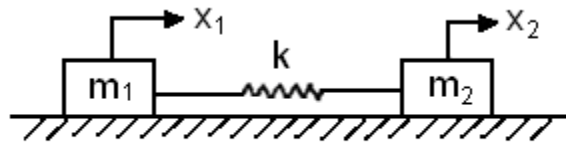

Figure 12:
1. Solve the problem shown in figure 12 $m_1=10\text{kg}$, $m_2=15\text{kg}$ and $k = 320 \text{ N/m}$. [16]